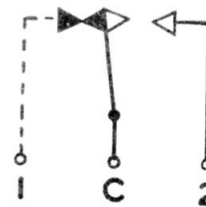

Fig. 3. Wiring diagram
4. The switch is provided with a set of change-over contacts, as shown in fig. 3, taken to terminals 1, C, and 2. In the normal application of this switch as an engine re-light switch, terminal 1 is not used. Contacts C and 2 are closed by the setting of the pointer, and open at the end of the 30-second period, when the cam follower drops off the step on the operating cam.